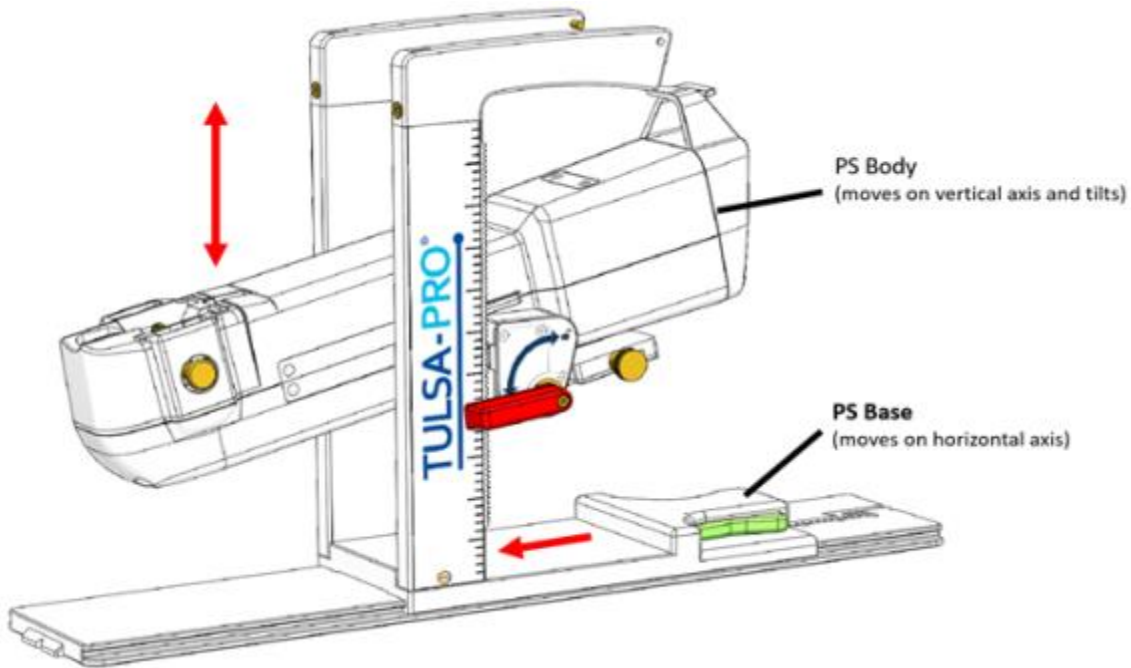

Figure 23: Adjusting the Positioning System
3. MRI Technologist: Manually move the PS into position so that the UA gripper aligns with the natural angle of the UA in the patient. Manually adjust the base of the PS forward and backward and up and down, and tilt the linear axis of the PS up and down (*Figure 23*).
NOTE: The PS adjustment knobs and levers are not colored as in *Figure 23*, but are colored here to help with these instructions.